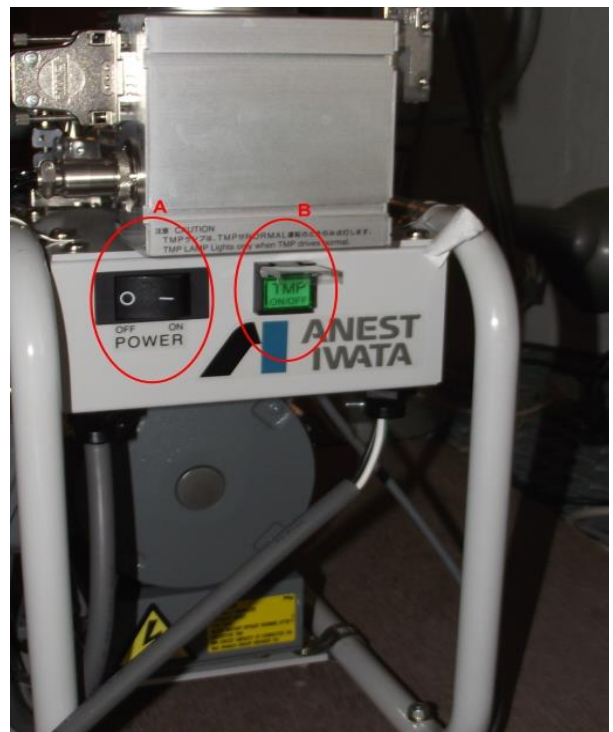

Figure 4: Vacuum pump control panel
5. Switch Button A ON to start the scroll pump (see Figure 4)
7. Switch Button B ON to start the turbo molecular pump (see Figure 4)
2. Switch off Turbo Pump (B) and Roughing Pump (A) (Figure 4)